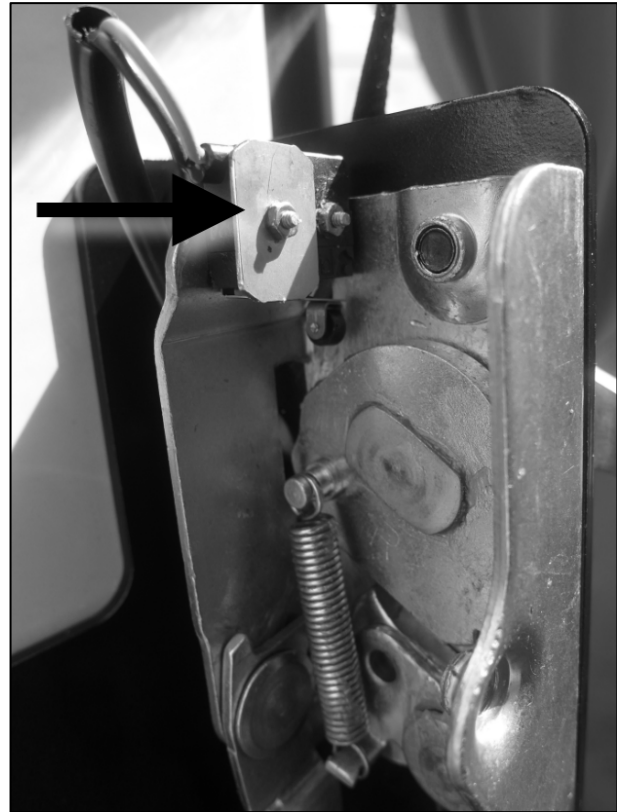

Figure 2
2. Visually confirm if the guard washer is added or not to the micro switch. (Figure 2)
Release clip by rotating it away from rod. (Figure 2)
8. Install clip 780340 (Figure 2) on latch lever. Slide rod in clip. Rotate clip on rod.